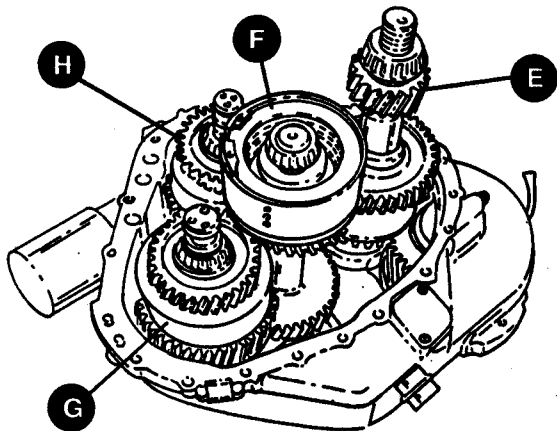

Figure 21.
14. Coat the layshaft taper roller bearing with clean oil and fit the layshaft assembly (E, Figure 21).